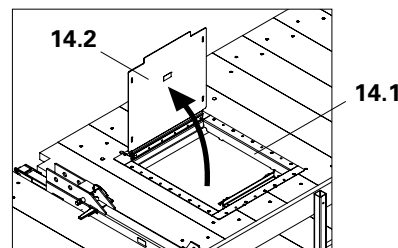

Fig. A2.05
- Place hinged hatch 55 x 60-2 (14.1) in the cut-out. The cover (14.2) opens towards the wall side. (Fig. A2.05)